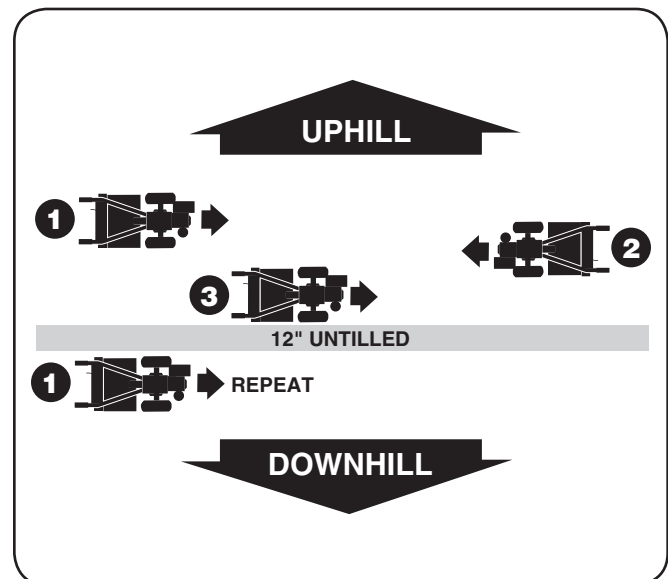

Figure 5-8
- To create a terrace, start at the top of the slope and work down. Go back and forth across the first row as shown in Fig. 5-8.